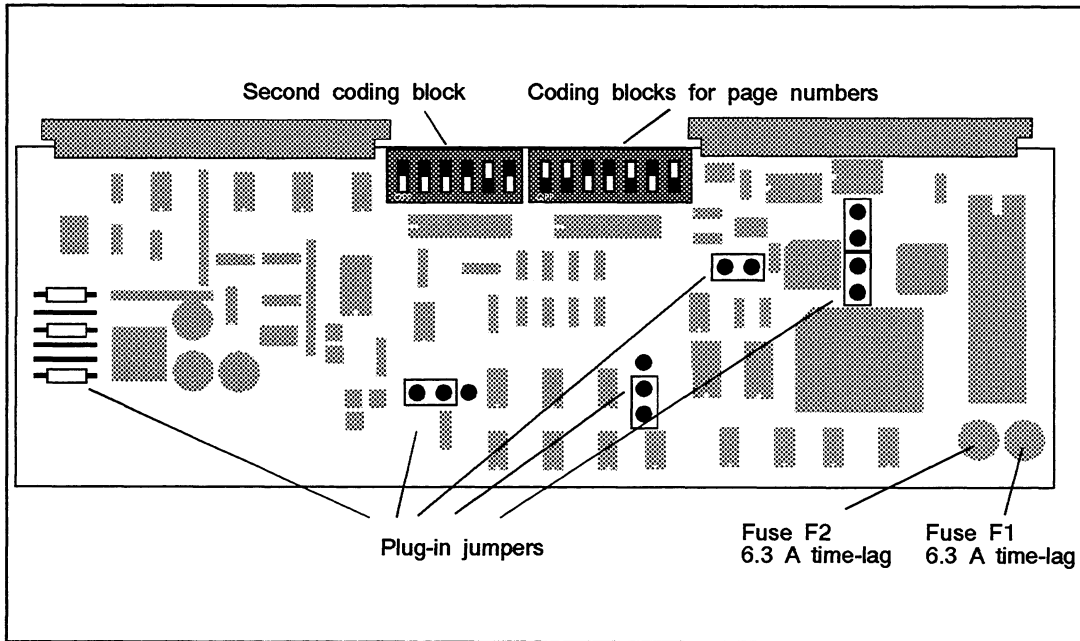

Fig. 4.2 Position and setting of the jumper bridges and coding block (ex factory)
- 3 Check the setting of the second coding block and the position of the plug-in jumpers according to Fig. 4.2.